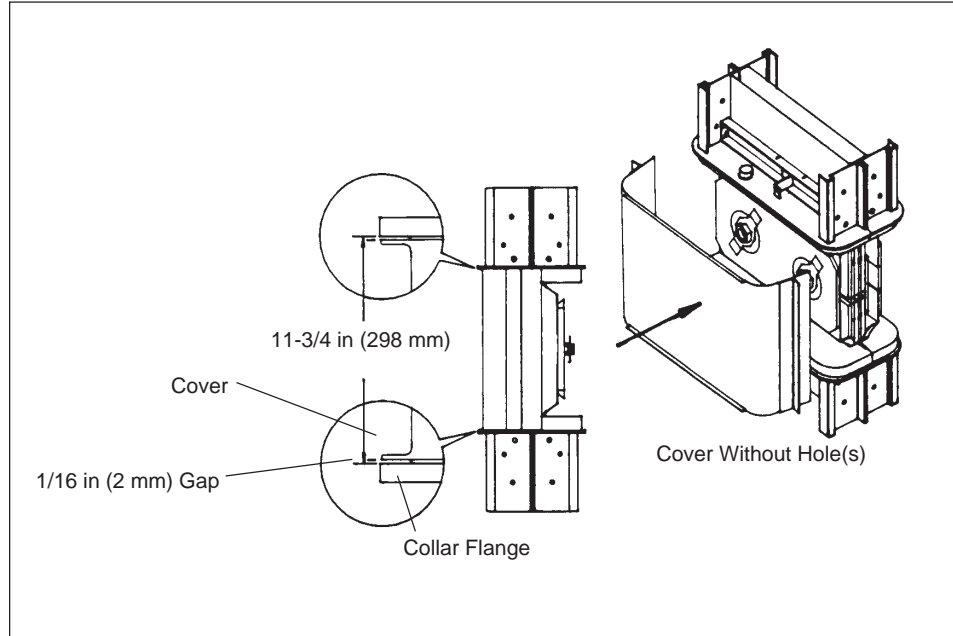

Figure 20
2. Align the joint using the cover (figure 20).
Use the cover without the hole(s) for alignment. Check dimensions shown in figure 20. Allow a 1/16 in (2 mm) gap between the cover and the collar flange. (Leave the cover on to aid in subsequent steps.)
Leave the cover on while tightening the joint bolts to ensure the proper alignment shown in figure 20. Torque with an 18 in (457 mm) or longer handle socket wrench until the outer VISI-TITE® bolt head twists off and the red disc falls away. Remove the cover.